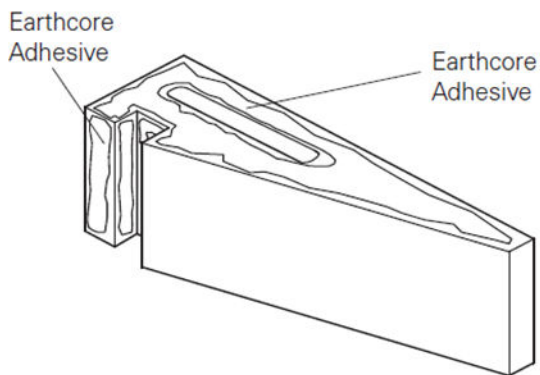

FIGURE 7
**NOTE:** It is important that a 1/2” bead of Adhesive is piped onto all the components’ contact surfaces, about 1/2” in from all edges. **(Figure 7)**